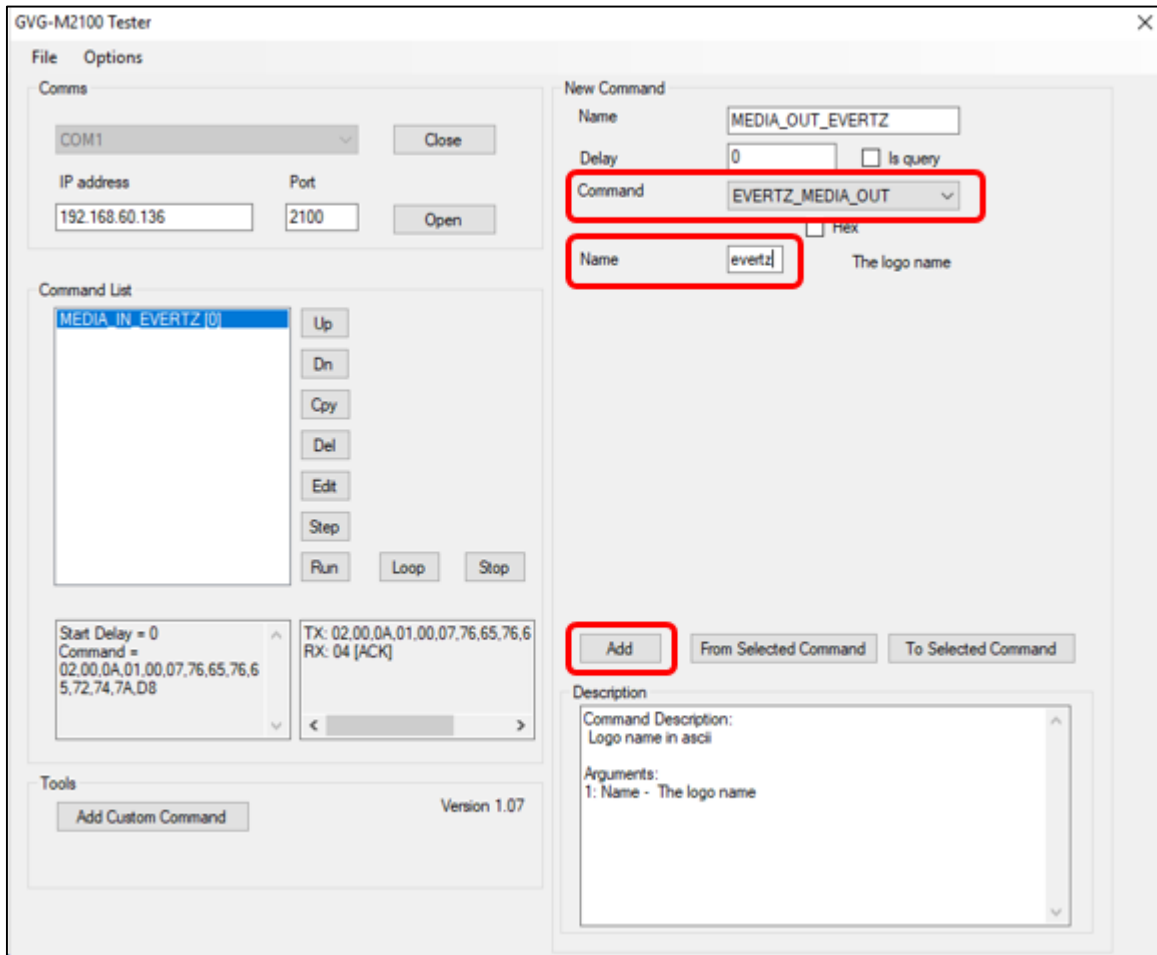

Figure 5-11: M2100 – Add Command to Remove Logo Through PVW
- 1) In order to remove the logo from PVW output signals (before using 'GVG_TX_START'), select '**EVERTZ_MEDIA_OUT**' in the "Command" option, include the name of the logo in 'Name' field and press "Add" button, so the command will be moved/stored to the 'Command List' on the side of the window, as Figure 5-11.